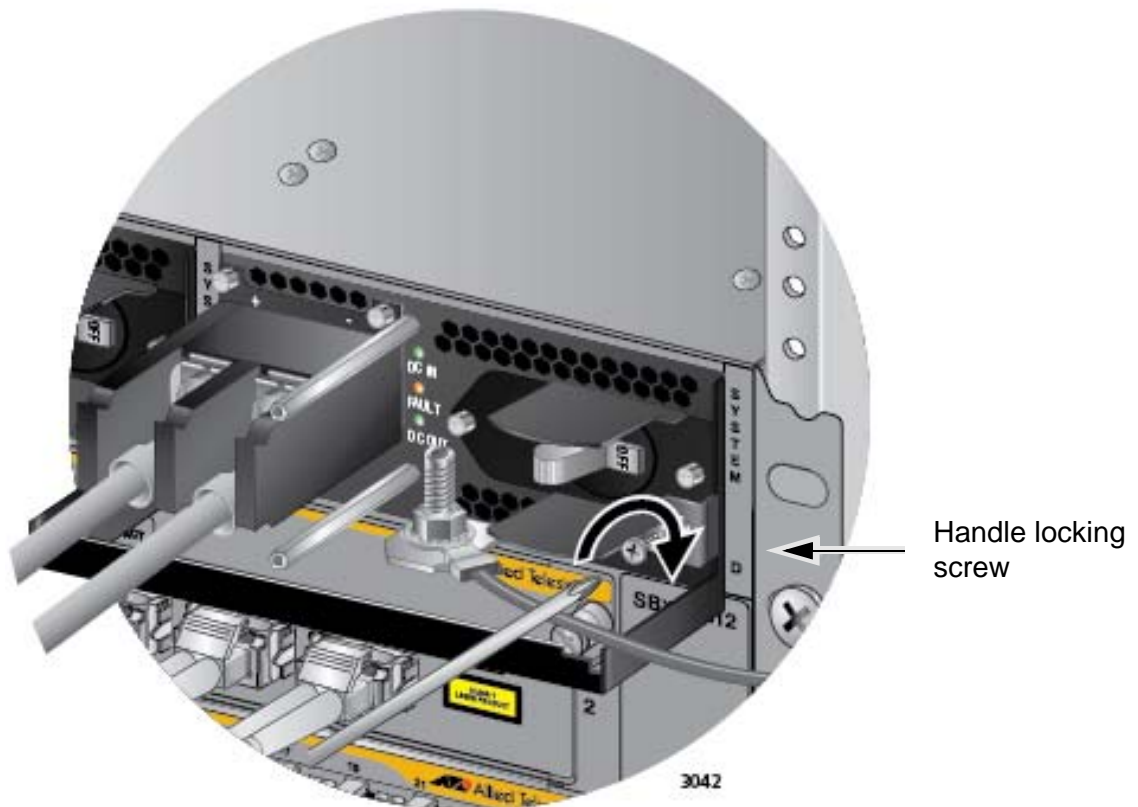

Figure 153. Tightening the Handle Locking Screw
8. With a #2 Phillips-head screwdriver, tighten the handle locking screw to secure the power supply to the chassis. See Figure 153 on page 231.